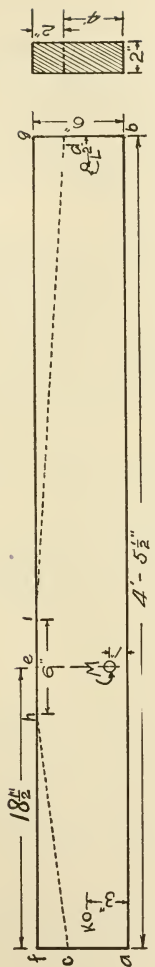

FIG. 94.—THREE HORSE EVENER.
1. **Laying out evener.** — Lay out point *c* $2''$ from point *f*, Fig. 94. Lay out point *d* $2''$ from point *g* at the other end. Square across both ends at these points. Lay out point *e* $18\frac{1}{2}''$ from *f* and square across one surface. $3''$ from *e* on either side locate
4. **Sawing and boring.** — Bore ¾'' holes at *K* and *L* and 1'' hole at *M* (Fig. 94). Bore ½'' holes at *K* and *L* and ¾'' hole at *M* (Fig. 95). Bore ½'' hole at *M* (Fig. 96).
Rip along the lines *ch* and *di* in Figs. 94, 95, 96, and plane smooth.